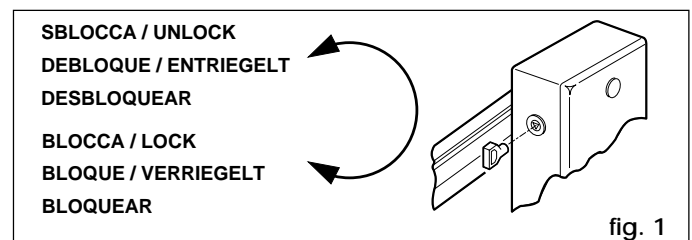
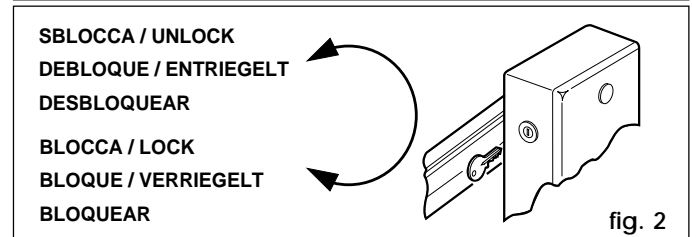

fig. 1
fig. 2
The level must not fall below the level mark on the inspection window (4, fig. 1).
To top up, unscrew the filler cap (6, fig. 1) and pour in oil up to the correct level.
- Insert the standard key (fig. 1) or the personalised key (fig. 2) in the lock and **turn anticlockwise** by one revolution.